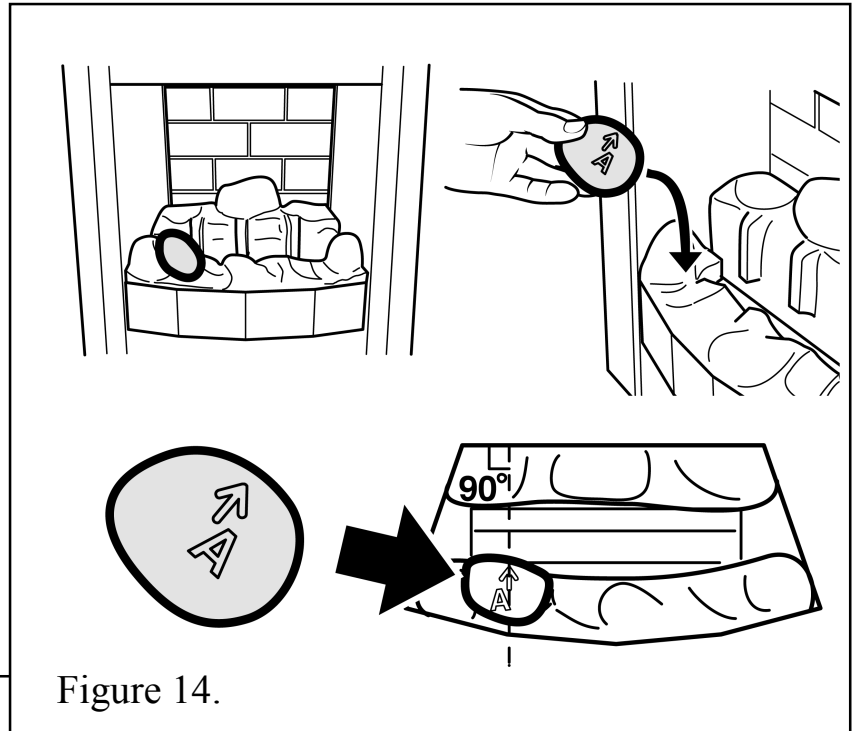

Figure 14.
The pebbles should be positioned so that the arrows always point towards the back of the fireplace opening. When located into position the stem of each arrow should be at 90° to the rear of the fireplace opening (See figure 14).
3. Hold pebble 'A' upright with the arrow pointing to the top. Place pebble "A" on top of the front base pebble. The pebble should rest against the moulded pebble to its left. (See figure 14).